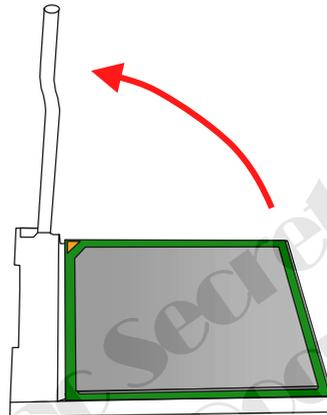

Figure 2-6 Remove the CPU
4. To remove the existing CPU, lift the socket arm up to the vertical position. (Figure 2-6)